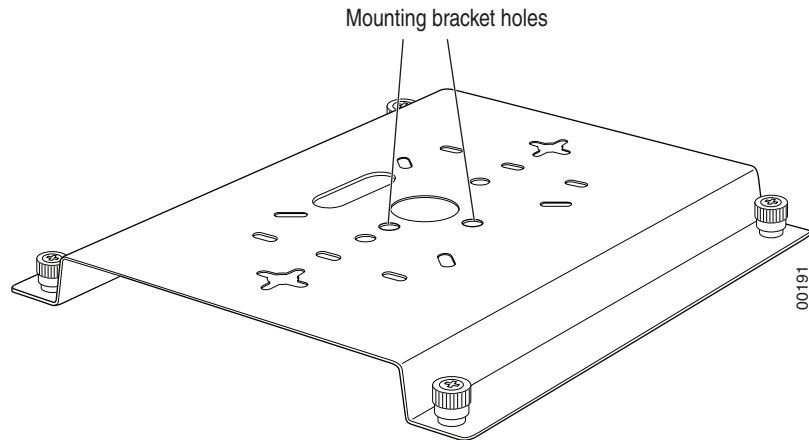

Figure 47: Box Hanger Mounting Bracket Holes
3. Locate the bracket mounting clip holes on the mounting bracket (see Figure 47). One hole attaches the bracket perpendicular to the box hanger. The other mounts the bracket parallel to the box hanger.